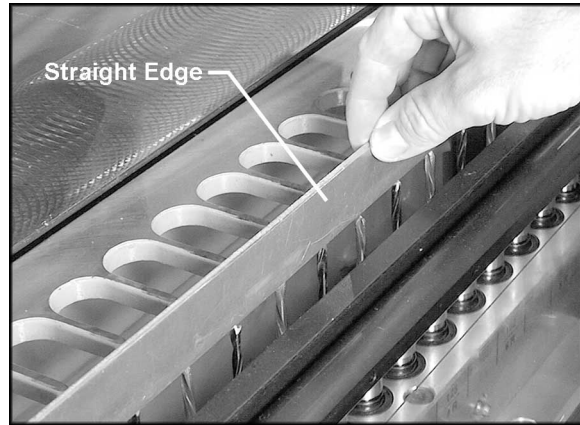

Figure 6
7. After all boring bits are installed, check to make sure they are aligned, that is, that they all protrude an equal distance from the chuck. (This assumes, of course, that all boring bits are of equal length.) This can be done by laying a straight edge across the tips of the boring bits, as shown in Figure 6.